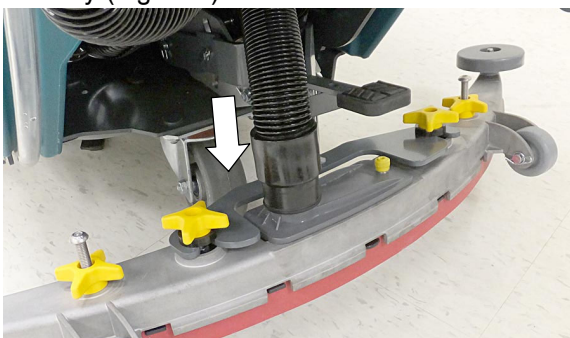

FIG. 7
3. Connect the vacuum hose to the squeegee assembly (Figure 7).